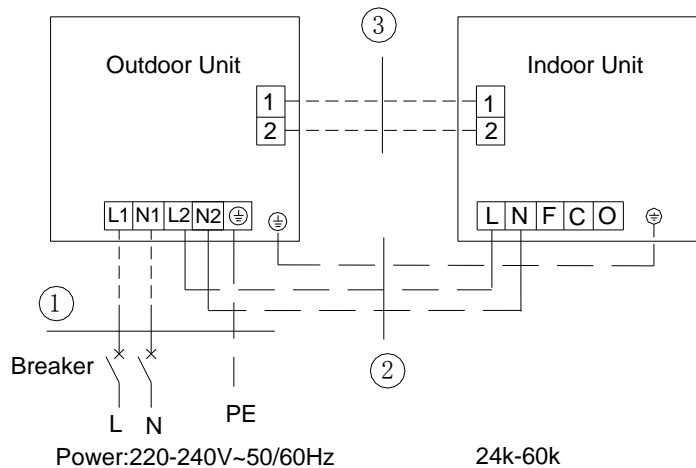

Figure 3-2-9
①. The power cord and the wire of the fresh air valve are high-voltage, while the communication cord and connection wire of the wired controller are low-voltage. They should run separately against electromagnetic interference.
②. The high-voltage and low-voltage lines should pass through the rubber rings at different electric box covers.
③. Do not bundle the connection wire of the wired controller and the communication cord together, or arrange them in parallel, otherwise improper operation would occur.
④. The high-voltage and low-voltage lines should be fixed separately and securely, with internal big clamps for the former and small clamps for the latter.
⑤. Tighten the indoor/outdoor connection cord and power cord respectively on the terminal boards with screws. Faulty connection may cause a fire.
⑥. If the indoor unit connection cord (to the outdoor unit) and power supply are wired incorrectly, the air conditioner may be damaged.
⑦. Connect the indoor unit connection cord properly based on the corresponding marks as shown in Figure 3-2-9.
⑧. Ground both the indoor and outdoor units by attaching a ground wire.
⑨. Unit shall be grounded in compliance with the applicable local and national codes.
(6) Electric wiring of outdoor unit side